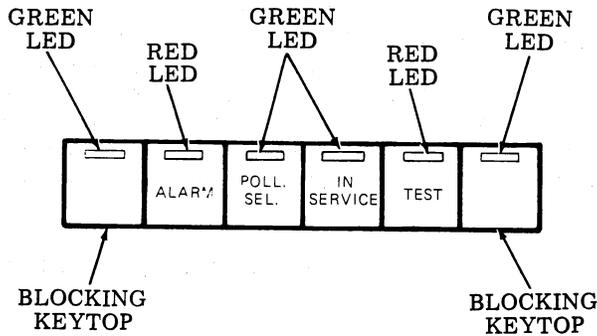

Fig. 18—40K003 ROP Opcon
3.10 40K003 ROP Opcon — This opcon is used with integrated controller (40C303) receive-only printer terminals. Only four of six switch and indicator assemblies are presently used in this opcon. The opcon provides both audible and visual indications of the terminal status and trouble conditions. (See Fig. 18.)